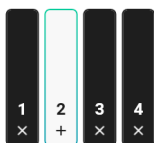

Figure 30 Confirming system health check positions with positions 1, 3, and 4 selected, and position 2 unselected.
- Unselect the positions you do not want to perform a system health check on (see Figure 30). By default all positions are selected.